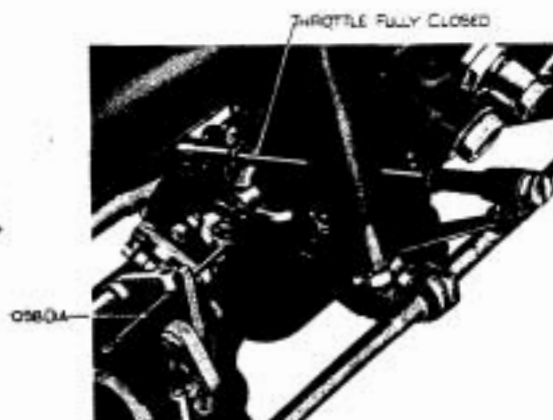

FIG. 6. FAST IDLE CAM AND LEVER ADJUSTMENT.
- (ii) With the front carburettor throttle fully closed, tighten the front coupling pinch bolt to give .098" clearance between the fast idle cam and the cam lever (see Fig. 6). The cam lever adjusting screw hole should be central with the cam face.